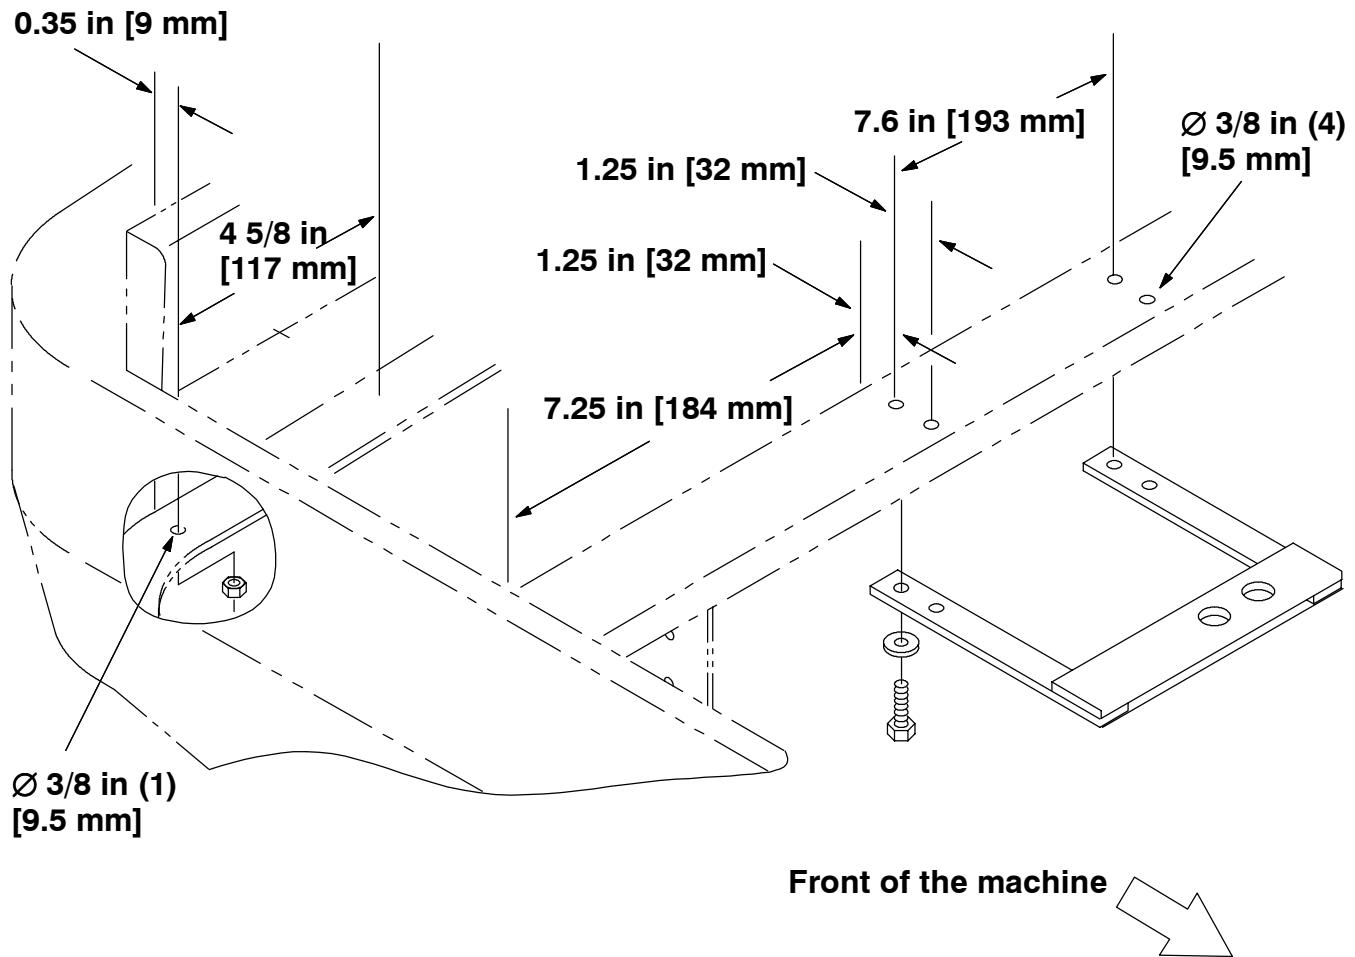

FIG. 2 - ISOLATOR BRACKET MOUNTING HOLE LOCATIONS
2. Locate the frame crossmember that supports the engine. Measure 7.25 in [184 mm] (to the left) from the main frame side along the crossmember, and 1.25 in [32 mm] forward. (Refer to FIG. 2)
4. Drill a 3/8 in [9.5 mm] dia. hole through the engine support crossmember at this location. A second hole should be drilled 1.25 in [32 mm] straight forward of the first. (Refer to FIG. 2 and 3)
5. Drill two more 3/8 in [9.5 mm] dia. holes 7.60 in [193 mm] left (toward the center of the machine) and in line with the first two holes. (Refer to FIG. 2 and 3)
6. Mount the muffler isolator bracket (3) to the bottom of the crossmember with 4 M8 X 65 mm bolts (10) and washers (8). Snug the bolts, but do not fully tighten. The cross leg of the new part should be below the oil pan on the engine. (Refer to FIG. 2, 4 and 7)
9. Drill a 3/8 in [9.5 mm] dia. hole in the bottom flange on the rear bumper, locating the hole 0.350 inch from the edge of the bumper flange and 4 5/8 inches from the right hand edge of the taillight mount surface. (Refer to FIG. 2 and 7)